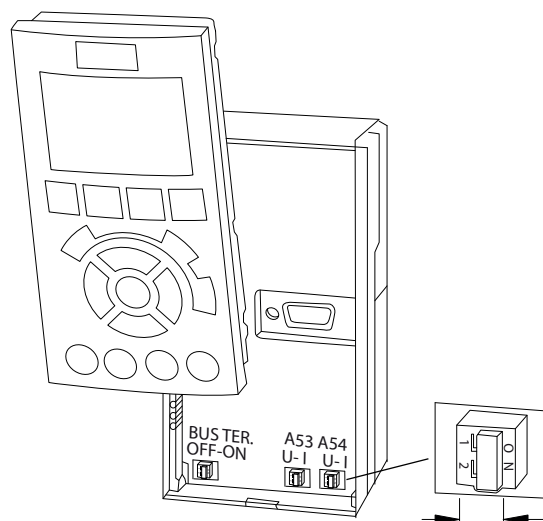

Figure 5.16 Location of Terminal 53 and 54 Switches
- A switch (BUS TER) is provided on the control card for bus termination resistance. See *Figure 5.16*.